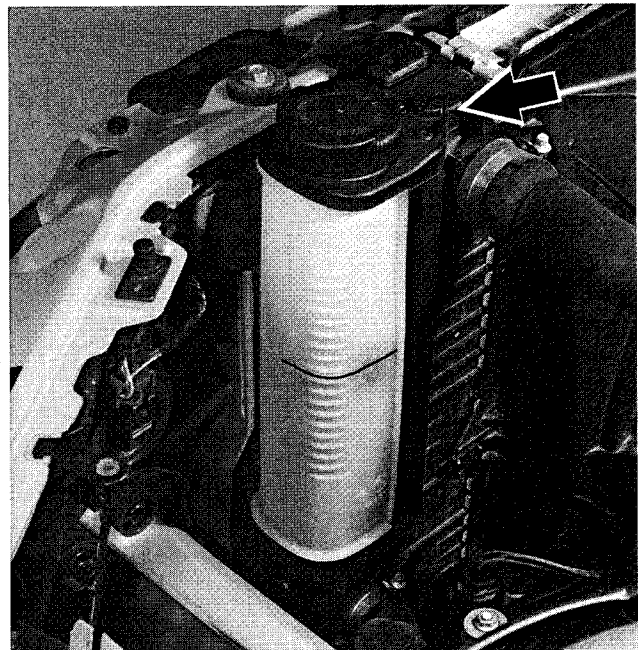

Fig. 7. Cooling system bleed screw on radiator (arrow). Note cold level mark on expansion tank.
2. Loosen bleed screw on radiator expansion tank. See Fig. 7.